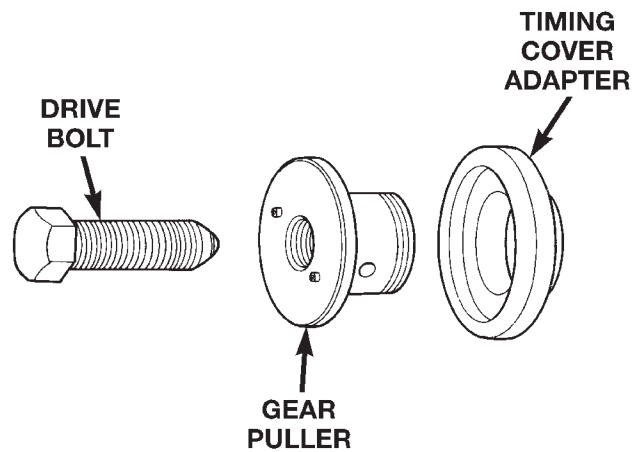

Fig. 42 Pump Gear Tools
(13) A special 3-piece gear removal tool set VM.1003 (Fig. 42) must be used to remove the injection pump drive gear from the pump shaft.